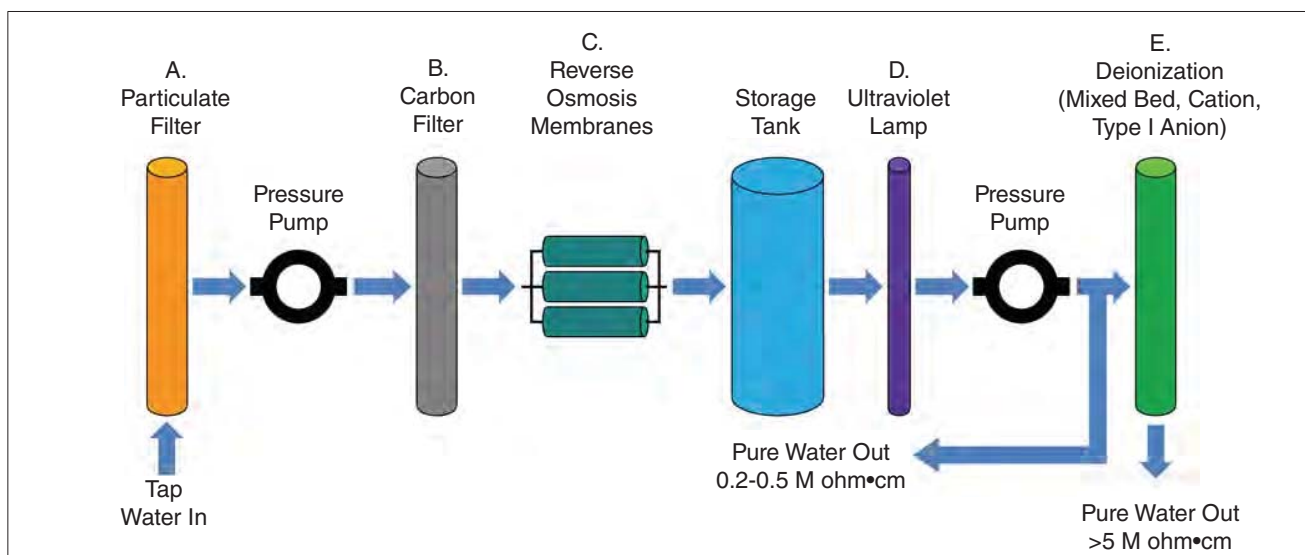

Figure 5.4.a: Reverse osmosis / deionized water system.
The reverse osmosis / deionized (RO/DI) water system shown in Figure 5.4.a produces water pure enough for spray systems. **This type of RO/DI system is required for Xe-1-SE, Xe-1-SCE and Xe-1-WE testers.**
- Figure 5.4.a below shows an effective Reverse Osmosis / Deionized Water System with Anion Type I Resin for spray water silica removal.